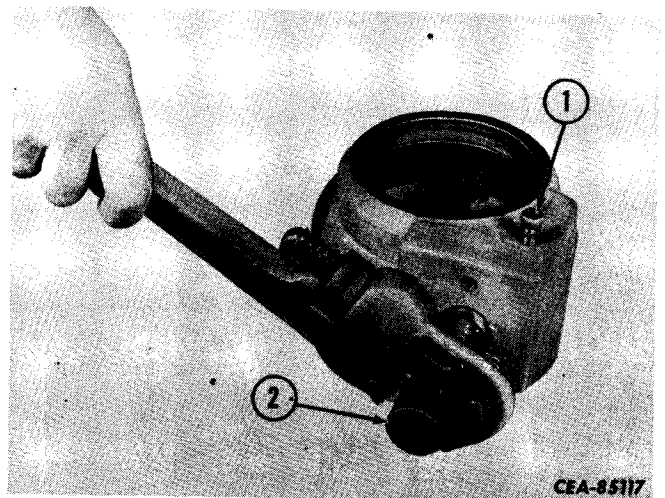

Figure 5-31
Remove the breather (1, Fig. 5-31) and dipstick tube (2) from the housing if they are damaged.